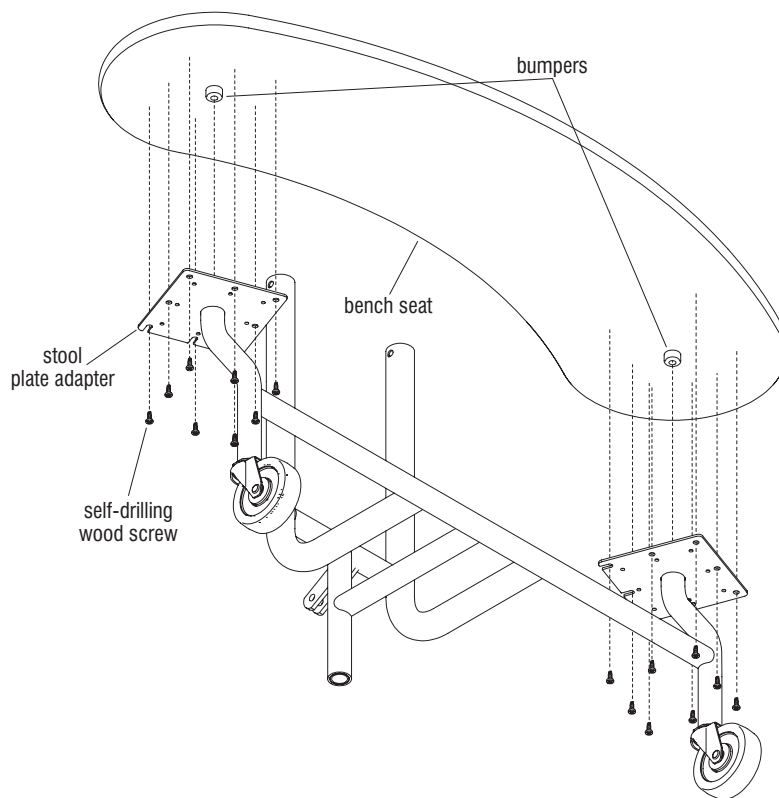

Figure 5
1. Remove bench seat and self-drilling wood screws from the shipping box (Figure 5).
2. Align bumpers on underside of bench with center holes on stool plate adapter. This will help hold the bench seat in place while screws are installed (Figure 5).
3. Using the self-drilling wood screws provided, attach bench seat to stool plate adapter (Figure 5).